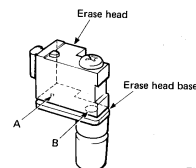

Fig. 8
① Check the capstan spindle for tilt. If it has a tilt, try tilting the record and playback heads in the same direction.
② If the tape flapping exists right before the erase head, eliminate it by tilting the erase head with a spacer inserted A or B between the erase head and erase head base as shown in the Fig. 8.
③ Check for parallelism of the tape guide of the supply pinch roller and the capstan. If they are not parallel, replace the supply pinch roller assembly.
④ Check for parallelism of the take-up pinch roller and the capstan. If they are not parallel, replace the take-up pinch roller assembly.